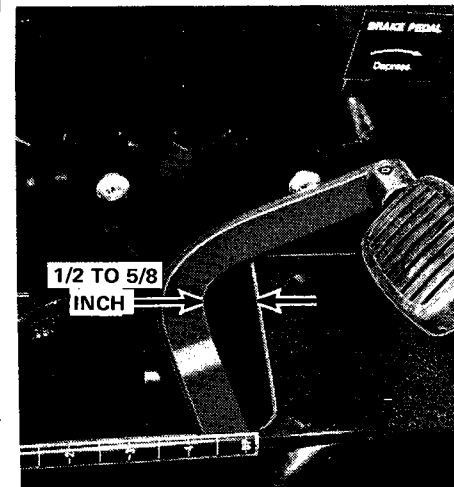

Fig. 26
1. Measure the distance between the front of the brake arm and the cutout of the tractor skirt; this should be 1/2 to 5/8 inch when brake is latched. See Figure 26. If this dimension is not 1/2 to 5/8 inch loosen the two hex head capscrews holding the latch bracket to the tractor frame. Slide bracket either forward or backward to achieve the 1/2 to 5/8 inch dimension. Securely retighten capscrews after adjustment is achieved.